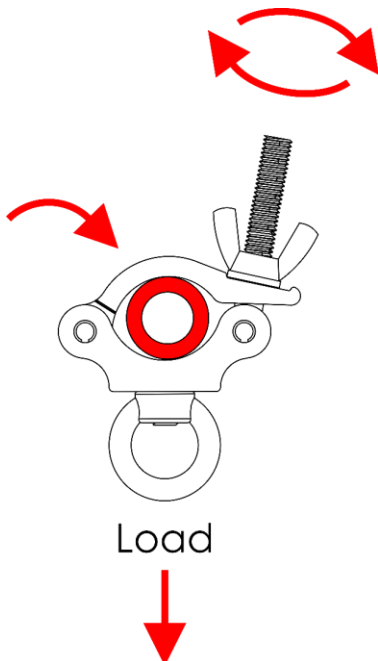
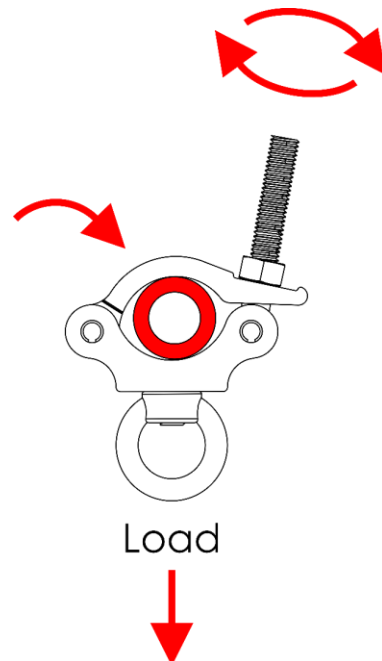

Fig. 05
Fig. 06
- 04) Attach a load to the **eye (05)**.
- 05) Put the device, with the installed load, around a tube ( $\varnothing$  48–51 mm) and close the **lock (07)**. See Fig. 05 or Fig. 06.
- 06) Put the **hex nut (02)** (fixed installation, Fig. 06) or the **wing nut (03)** (temporary installation, Fig. 05) on the **hex bolt (01)** and turn it clockwise, to tighten the device around the tube.